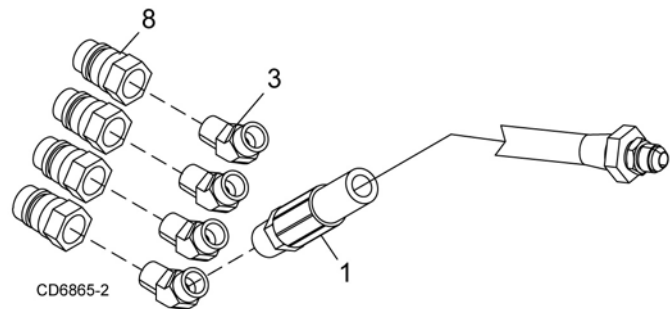

Figure 10. Hose Kit Assembly
Attach 45-degree elbow (3) and male quick coupler (8) to the end of the four loader supply hoses (1). See Figure 10.